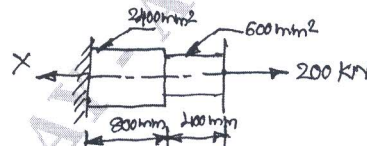

Fig.Q4(a)
- 4 a. A stepped bar shown in Fig.Q4(a), determine the nodal displacement and stresses at each node. Take $E = 2 \times 10^5 \text{ N/mm}^2$.